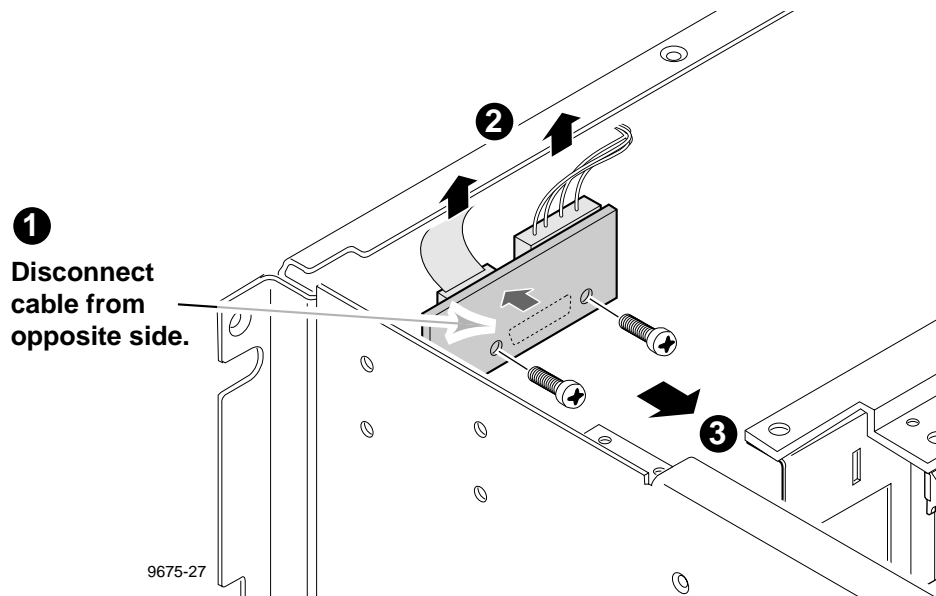

Figure 6-15. Removal of the LED EMI Board
4. Use the Torx tool with the T15 tip to remove the screws which attach the LED EMI Board to the plate inside the front grill of the chassis (3 in Figure 6-15).
5. Disconnect the remaining cable from the LED EMI Board (1 in Figure 6-15).
1. Reconnect the cable to the LED EMI Board (Figure 6-15).